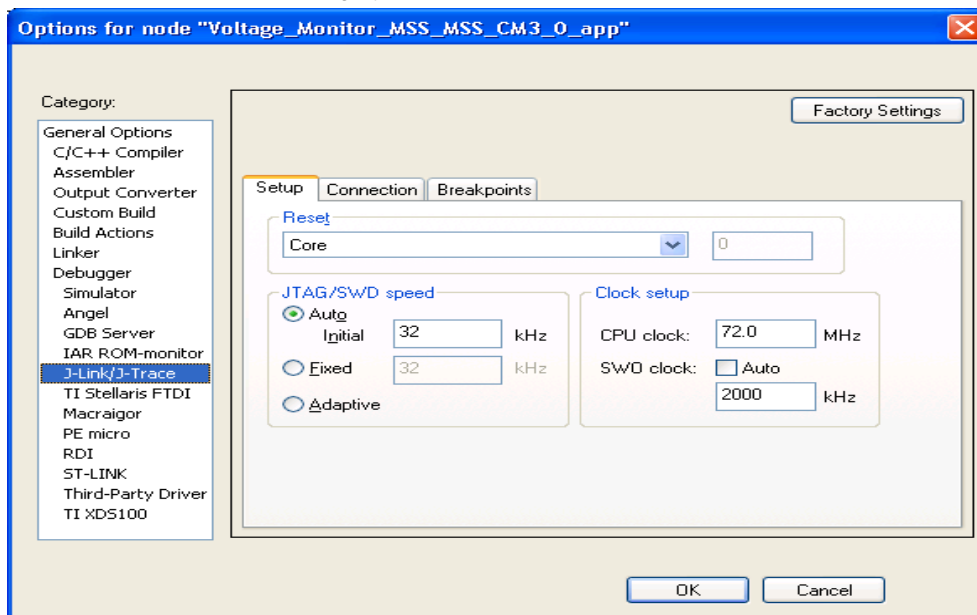

Figure 37 · J-Link/J-Trace Setup
13. Click **J-Link/J-Trace** category. Under the **Setup** tab, select **Reset** as **Core** as shown in Figure 37 :